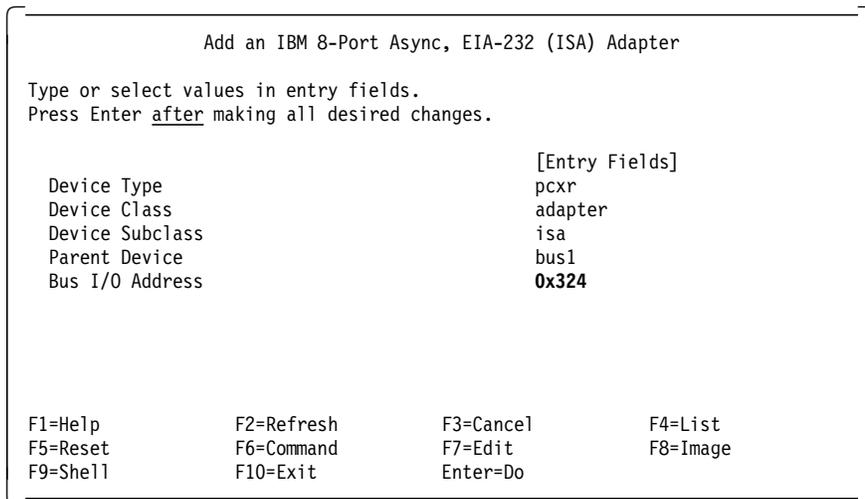

Figure 53. SMIT Configuration Menu for Adding an 8-Port Asynchronous ISA Adapter
8. From the menu described in Figure 53, select the correct Bus I/O Address, and press Enter.